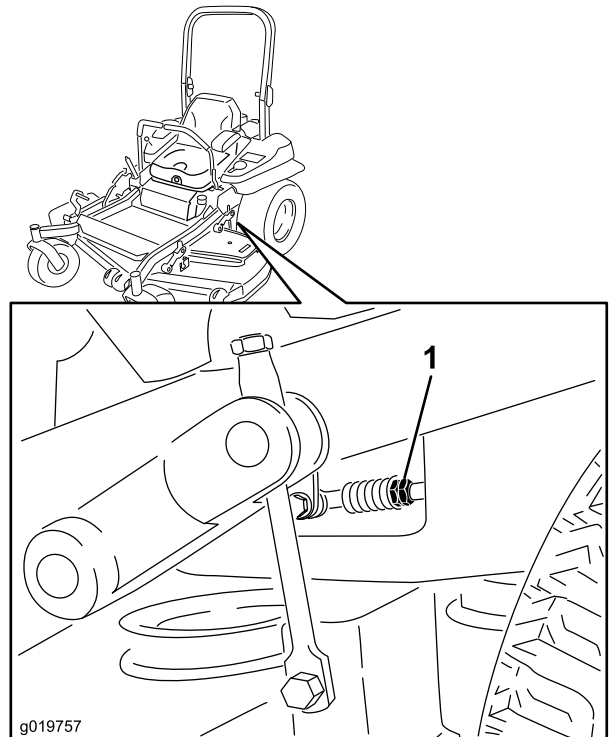

Figure 82
7. Bring the motion control levers into the neutral position. Adjust pump control rod lengths by rotating the double nuts on the rod in the appropriate direction until the wheels slightly creep in reverse (Figure 82). Move the motion control levers to the reverse position and while applying slight pressure to the lever allow the reverse indicator springs to bring the levers back to neutral. The wheels must stop turning or slightly creep in reverse.